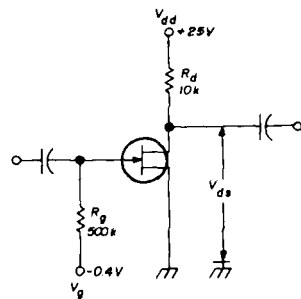
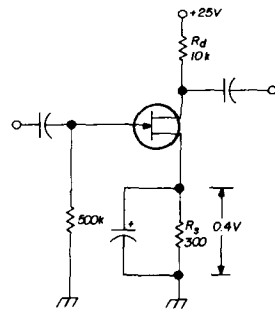
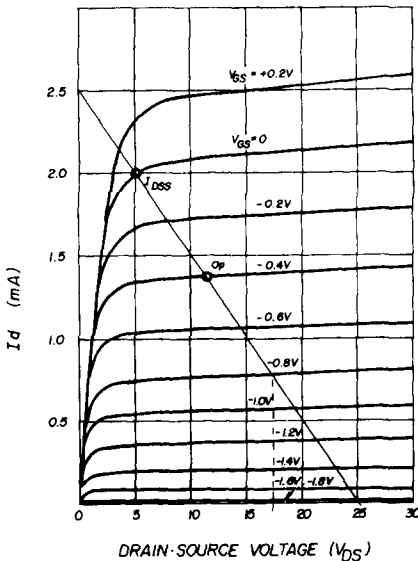
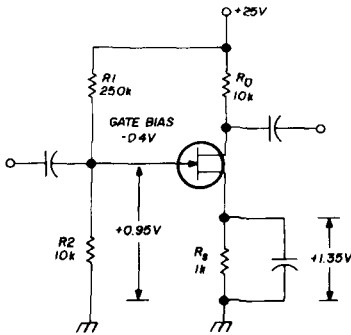

fig. 4. A circuit with external bias to meet the conditions of fig. 5.
fig. 6. Self-bias circuit for the conditions of **fig. 5**.
fig. 5. Fet family of curves with load line.
fig. 7. Compensated and stabilized bias for the conditions of fig. 5.
The operation of the circuit of **fig. 4** can be disclosed by drawing an appropriate load line on the family of curves, **fig. 5**. As shown the supply voltage is +25. If on the peak of the input signal, the drain current is to rise to the saturation current on the zero-bias curve, the load line must be drawn between this point and +25 on the zero drain-current axis. If the load line is continued to the zero drain voltage axis, it is possible to determine the ohmic value of the load line:
This load line condition is matched by connecting a 10,000 ohm resistance in the drain circuit, **fig. 4**.
A suitable operating point can be found along the load line. The best gain is obtained by using a low bias provided the input signal is not great enough in amplitude to overdrive the transistor. The operating point of **fig. 5** is satisfactory for an input signal of 0.4 volts peak. Operating point bias is -0.4 volts; drain current 1.35 mA and drain voltage, about 11.25 volts. An operating-point gate bias of
-0.4 volts is applied externally in the circuit of **Fig. 4**.
Self-bias using the circuit of **fig. 6** can be used to establish the same operating conditions. Inasmuch as the operating-point drain current and gate bias are known, it is possible to determine the proper value for the source resistor. Source resistor value for the circuit of **fig. 6** and the operating conditions given in **fig. 5** is:
Two factors have a significant influence on bias requirements. One is the production spread which may be such that the saturation current I_{DSS} may have a ratio of 3-to-1 or higher. In the typical example of **fig. 5**, it may be that the I_{DSS} value will not be 2 mA, but may have a high of 3 mA and a low of 1 mA. Temperature drift is the second factor — both warm-up operating point
ature are pronounced when only external gate bias is used. Self-biasing is much more self-adjusting because a shift in operating point drain current is compensated by the change in bias produced by the change of current in the source resistor. However, even better operating-point stabilization can be obtained with a further increase in the ohmic value of the source resistor. Normally this would result in an improper bias, but a combination of gate-divider bias and a higher value of source bias can be used to set-up the operating-point of fig. 5. This is done by using positive gate voltage instead of negative, however. In fact, the circuit in fig. 7 is similar to that used in a bipolar transistor circuit but for quite a different reason as you learned.
Note that this is substantially higher than the desired 0.4-volts bias, fig. 5. Hence, to
"While fig. 5 is reasonable for an experiment, it should be noted that simply leaving TTL inputs floating is not a reliable means of insuring that they are high. Pins 1 and 2 ought to each be tied up to +5 V through 1k resistors.